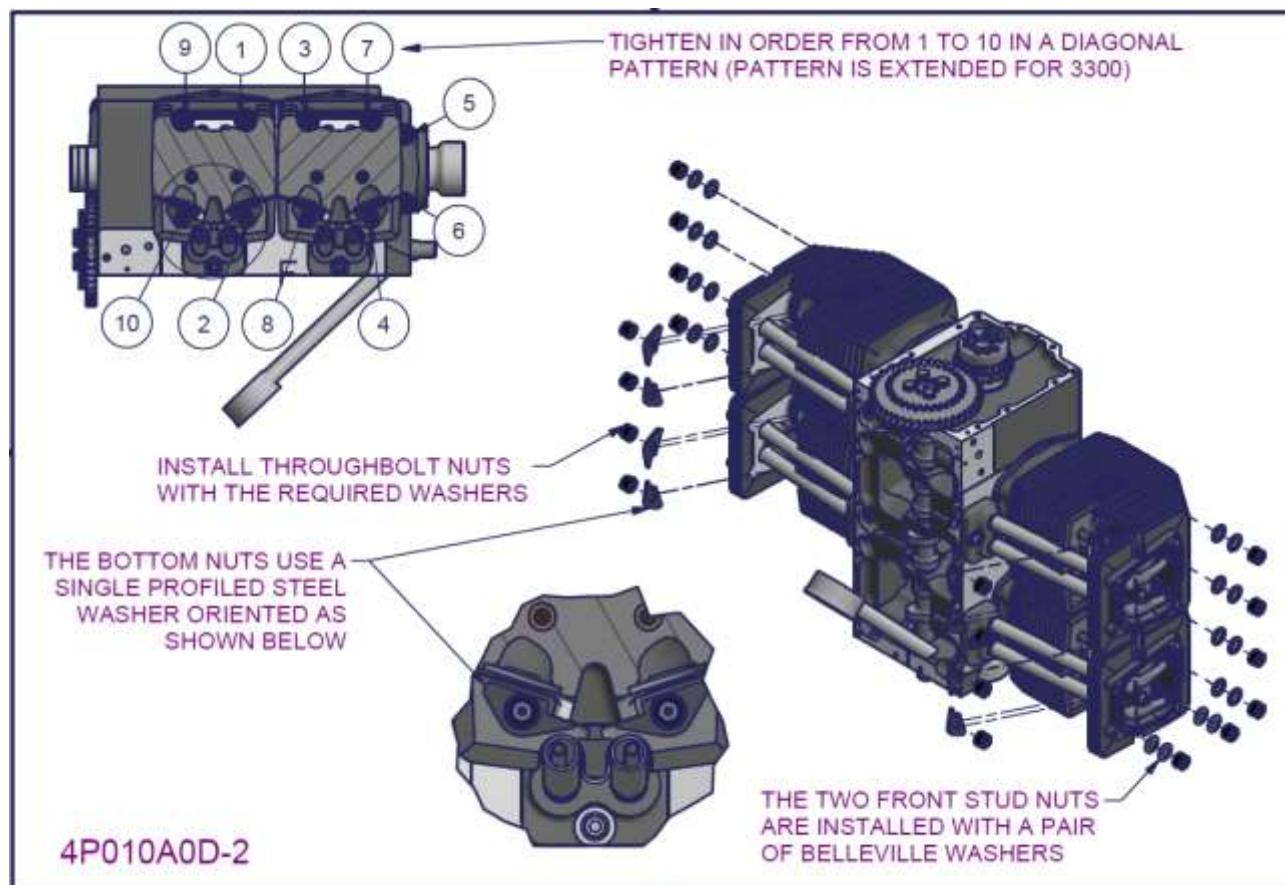

Figure 116 - 2200/3300 Joint engine assembly 4
- Torque all nuts to 20ft.lb using a diagonal tightening pattern such as that shown in Figure 116.